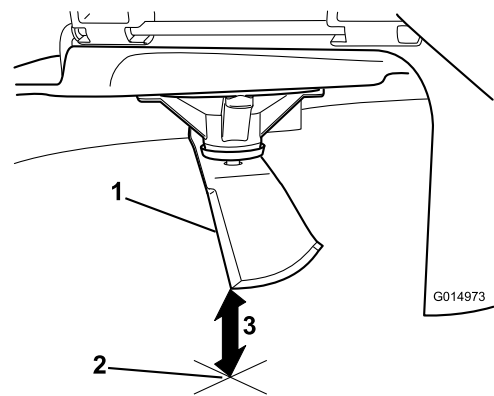

Figure 52
3. Measure from the tip of the blade to the flat surface (Figure 52).